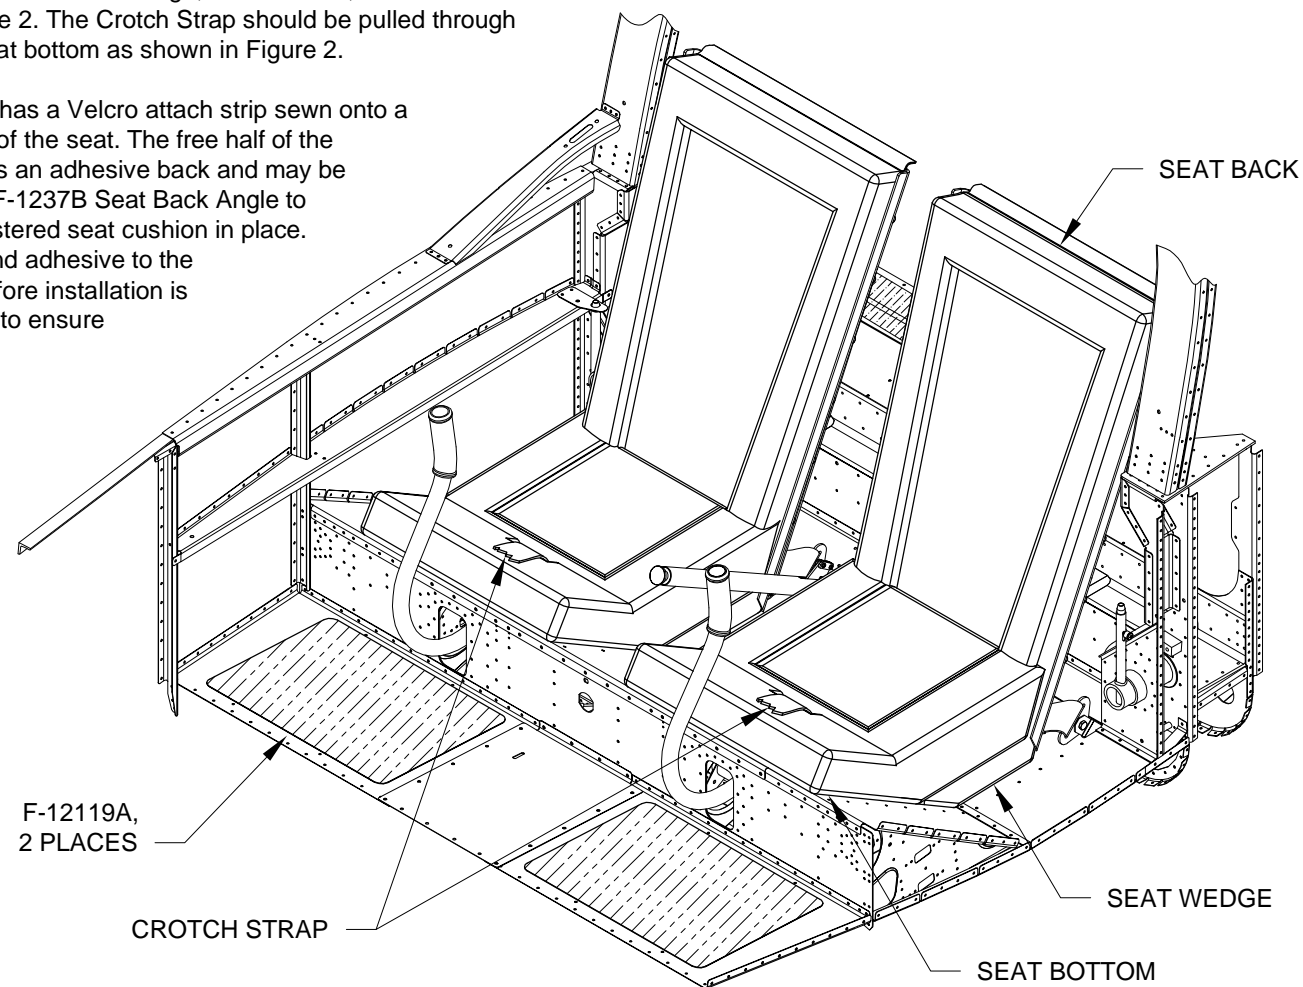

FIGURE 2: SEAT INSTALLATION
Step 3: Test fit the F-12119A Non-Skid Step Floors to the F-1213-L and -R Step Floors. Position as shown in Figure 2. The forward edge of the non-skid step floors shall be parallel to the forward edge of the step floors. Adhere the non-skid step floors to the clean and dry step floors as shown in Figure 2.
Step 4: Position the Seat Wedge, Seat Bottom, and Seat Back as shown in Figure 2. The Crotch Strap should be pulled through a slot in the seat bottom as shown in Figure 2.